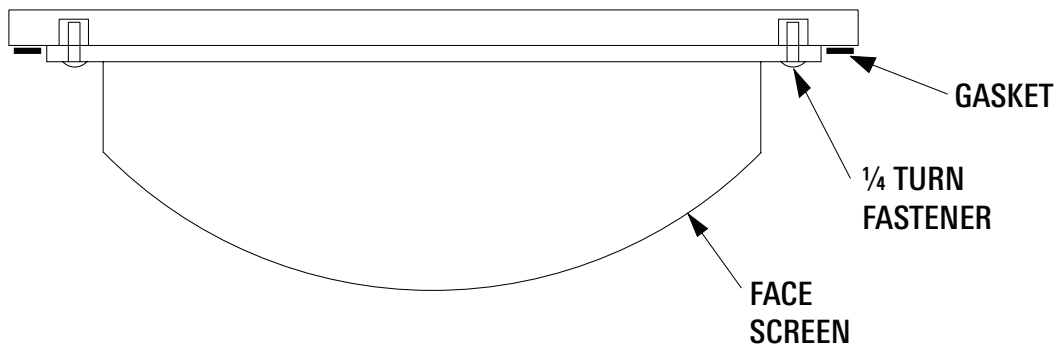

FIGURE 11
- A. Gasketing is a standard option for HEPA rack models. Figure 11 shows the general location of gasket, while Figure 12 shows a close up view of where the gasketing is often applied